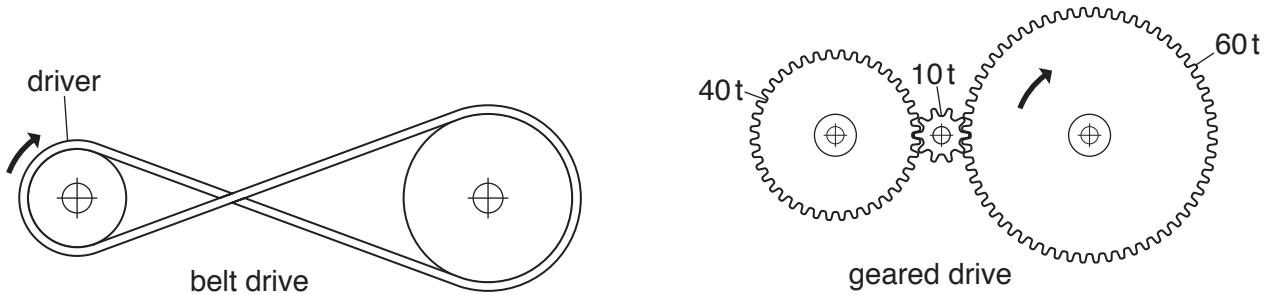

Fig. 10
- (b) Two types of drive system are shown in Fig. 10.
- (i) Describe **two** outcomes of using the belt drive system shown in Fig. 10.
- (ii) Draw on Fig. 10 to show the direction of rotation of the 10t gear and the 40t gear in the geared drive system.